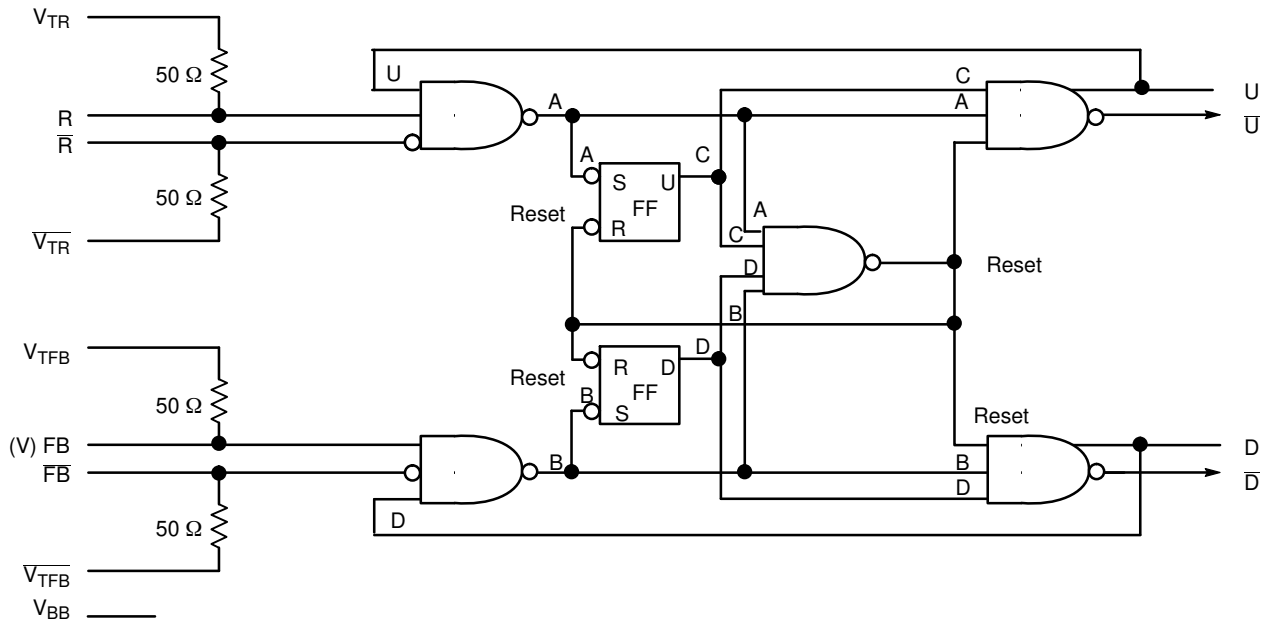

Figure 2. Logic Diagram
When Reference (R) and Feedback (FB) inputs are 80 ps or less in phase difference, the Phase Lock Detect pin will indicate lock by a high state (V_{OH}). The V_{TX} (V_{TR} , $\overline{V_{TR}}$, V_{TFB} , $\overline{V_{TFB}}$) pins offer an internal termination network for 50 Ω line impedance environment shown in Figure 2. An external sinking supply of $V_{CC}-2$ V is required on V_{TX} pin(s). If you short the two differential pins V_{TR} and $\overline{V_{TR}}$ (or V_{TFB} and $\overline{V_{TFB}}$) together, you provide a 100 Ω termination resistance. For more information on termination of logic devices, see AND8020.